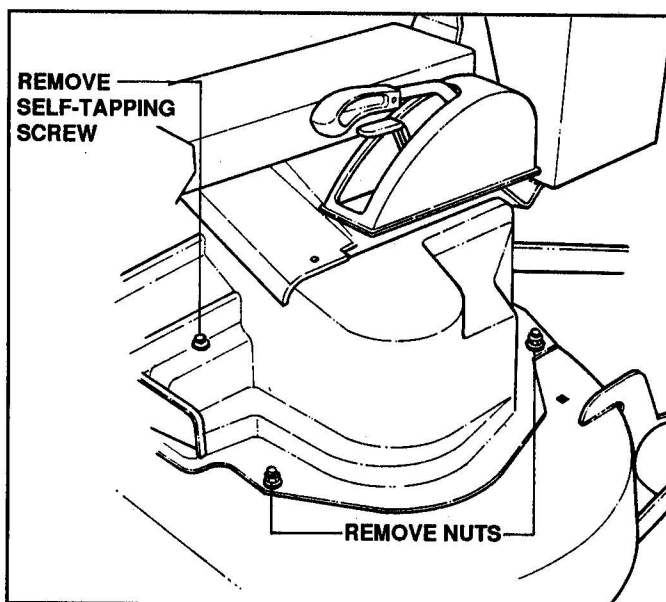

FIGURE 3.4
- Lift belt cover up to clear studs and then remove. See Figure 3.4.